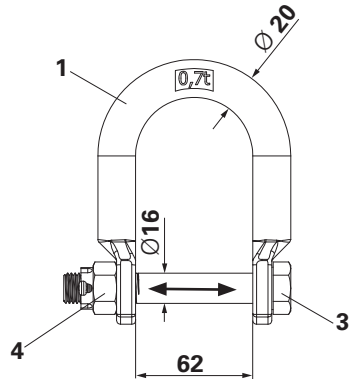

Fig. 3
- The Crane Eye CB 240-2 0.7 t may no longer be used if there is a geometric deviation of more than 3% of the original material diameter. (Fig. 3)
- The Crane D-Ring (1) may no longer be used if there is a deviation of dimension 62 mm by a maximum of 10%. (Fig. 3)